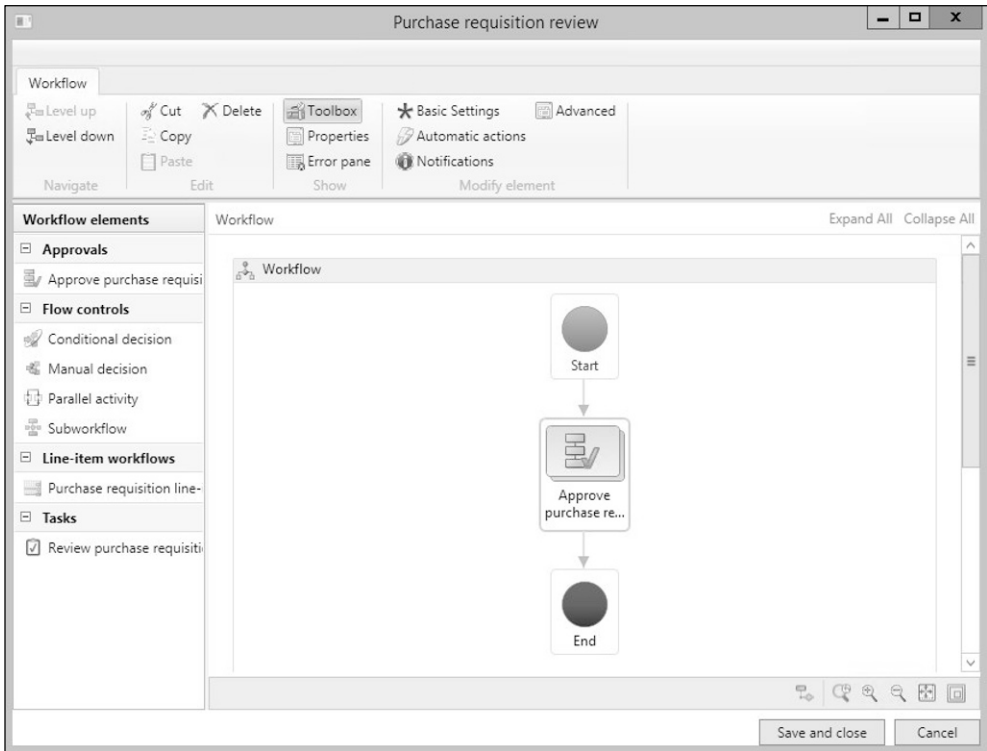

Figure 10-10: Graphical workflow editor showing the purchase requisition workflow
- **Error pane** – Displays error messages and warnings below the canvas (not shown in Figure 10-10, click the button *Error pane* in the action pane to display)